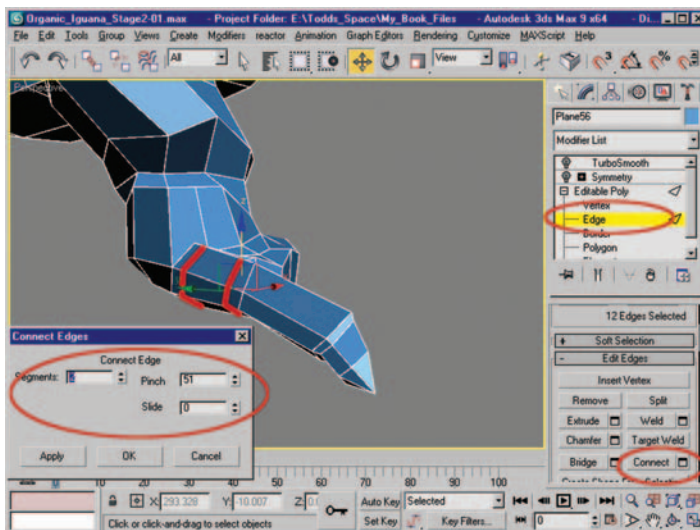

Figure 9.68 Edge-ring selection after using Connect with the settings seen in the dialog box.
30. Select the edge ring that makes up the first segment of the finger and use the Connect settings dialog box. Use two segments and a Pinch value of 51 to create two new edge loops as seen in Figure 9.68.